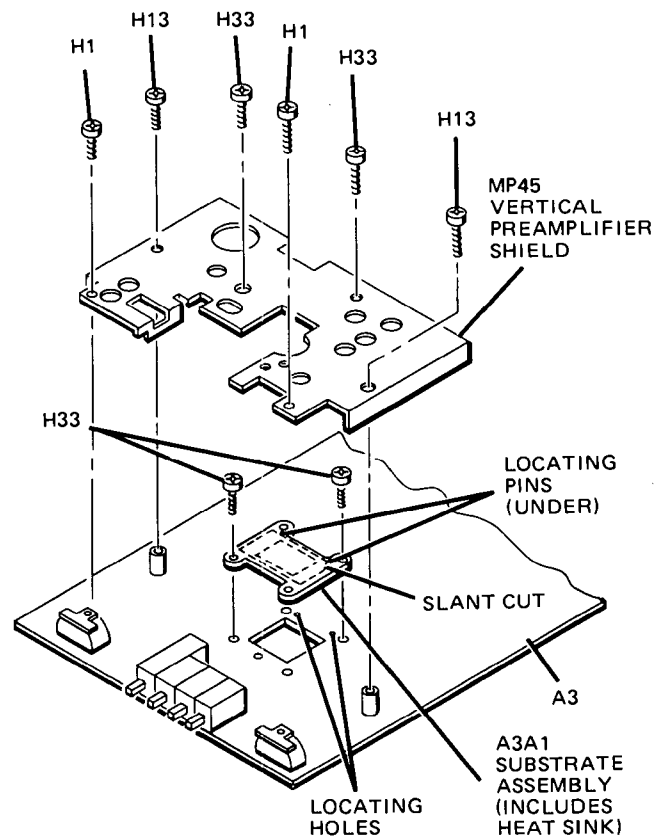

Figure 8-6. A3A1 Removal
To remove A3A1, see figure 8-6 and proceed as follows:
- e. To reinstall substrate assembly A3A1 reverse removal procedure; be certain that orientation of parts is as shown in figure 8-6.